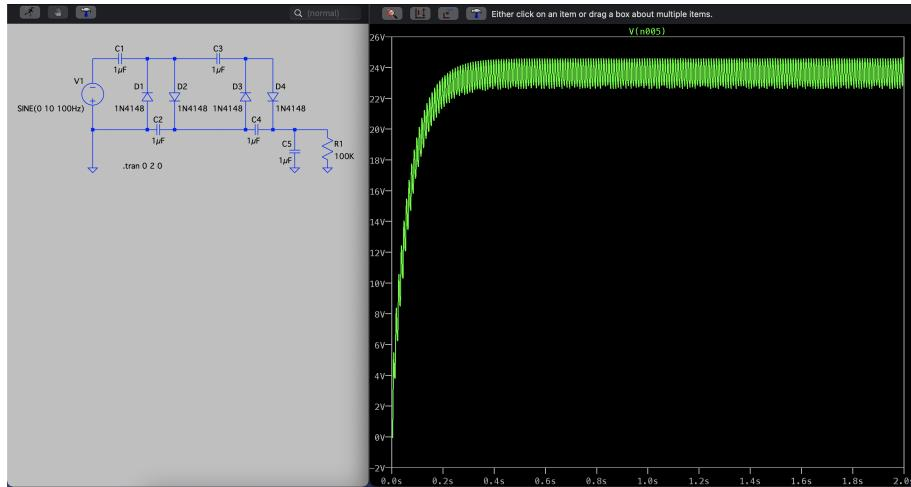
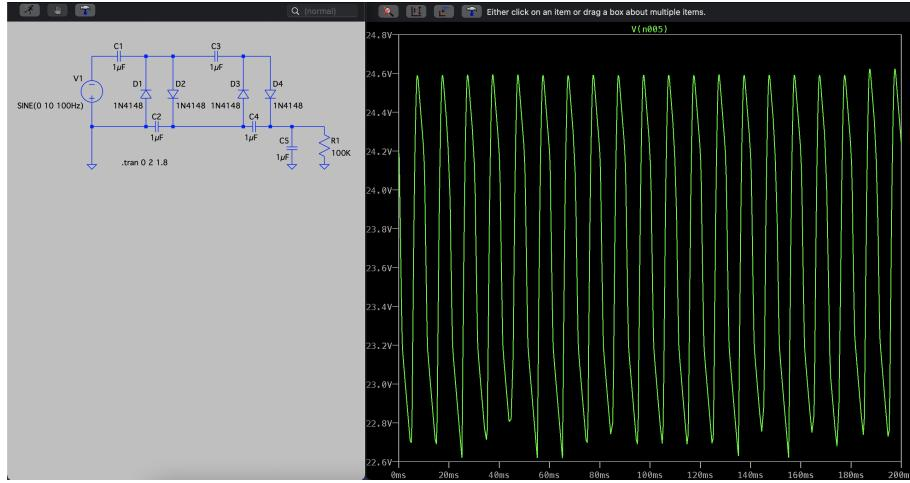

Figure 27: Circuit
Figure 28: Circuit
5. Decreasing the input frequency to 100Hz results in increasing the ripple voltage and in decreasing the multiplication factor. Note that only capacitors depends on frequency. At lower frequencies, the reactance of the capacitor will increase. It means that it blocks more AC current. LTSpice gives the output shown in Figure 27 and Figure 28. It is clearly seen that the DC voltage is around 23V and the ripple voltage has increased.